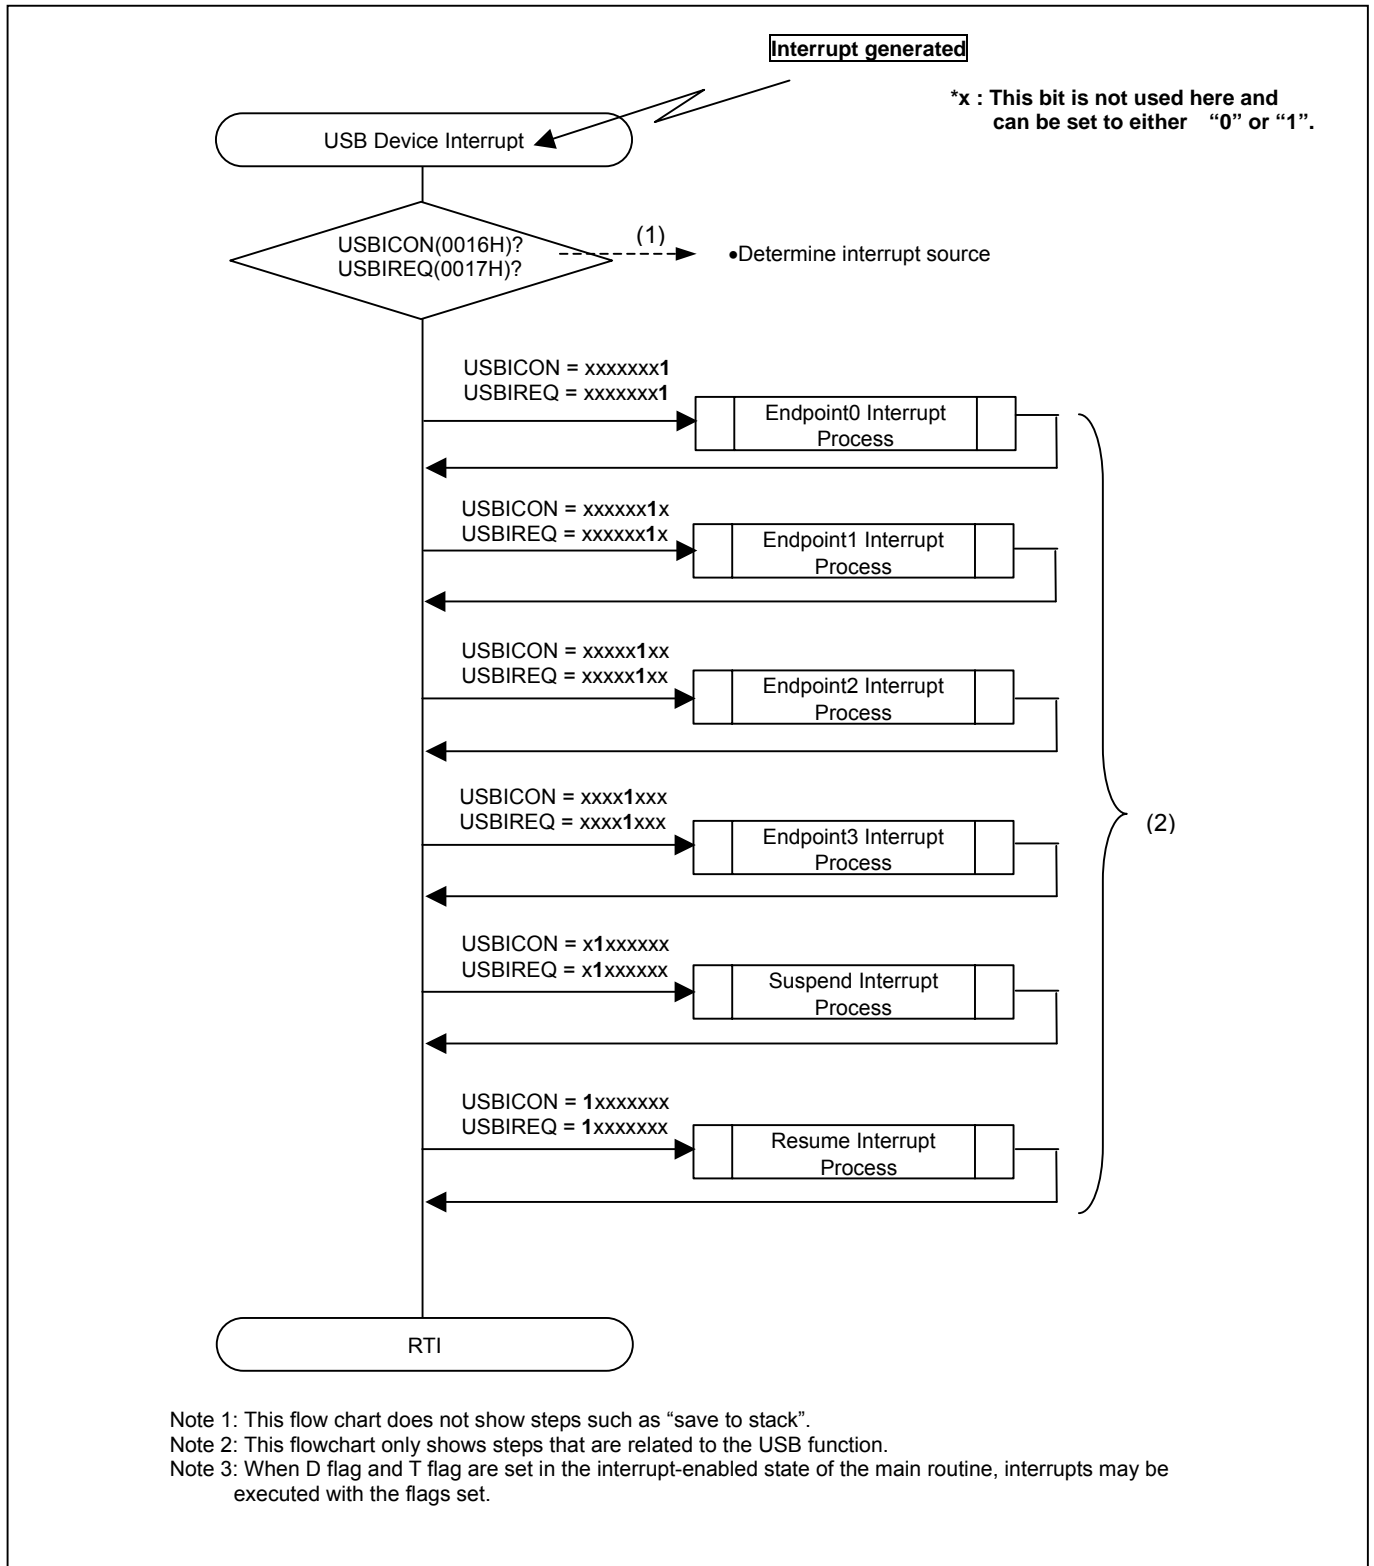

Figure 2.3 Example of USB Bus Device Interrupt Routine
Table 2.4 lists the USB device interrupt registers and Figure 2.3 shows an example of the USB device interrupt routine.
The following are detailed descriptions of the steps shown in [Figure 2.3 Example of Bus Reset Interrupt Routine].
(1) Interrupt Source Determination Method #1
The bus device interrupt is determined by the AND condition of the enable bit state of USBICON (USB Interrupt Source Enable Register) and the source bit state of USBIREQ (USB Interrupt Source Register). In other words, when both bits are “1”, the next step in the process (the Chapter indicated by (2) in Figure 2.3) is valid.
(2) Interrupt Source Determination Method #2